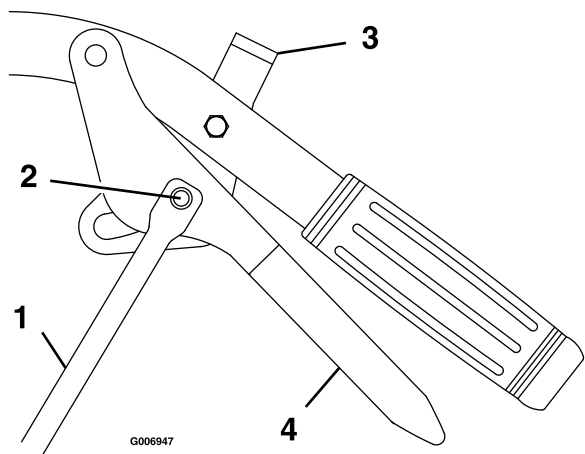

Figure 8
2. Insert the clevis pin from the bolt bag through the drive linkage, the lever and the slot in the neutral lock/park brake latches (Figure 8). Make the proper adjustments before adding the hairpins.